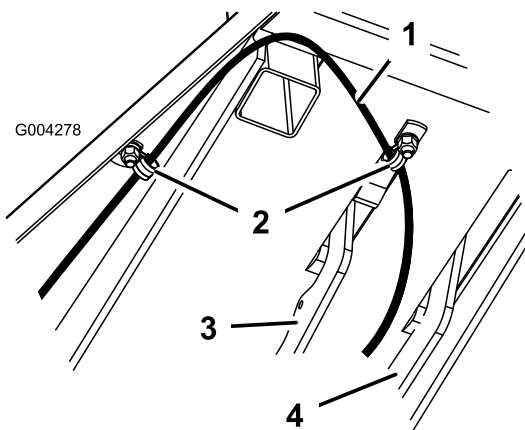

Figure 24
20. Secure the routed cable loop to the front of the frame at existing weld nuts in the frame using two R-clamps and bolt (Figure 24).